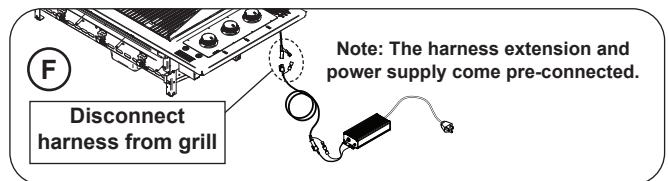

Fig. 3-3 Disconnect harness
- Locate the harness extension coming from the grill and disconnect it from the grill (see Fig. 3-3, F).